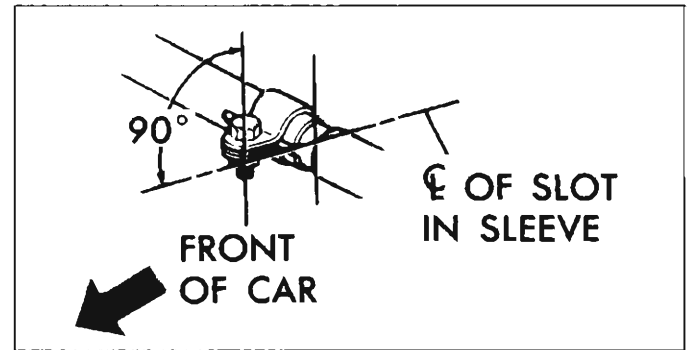

Fig. 8—Tie Rod Clamps
3. If gear has been moved off high point when setting wheels in straight ahead position, loosen adjusting sleeve clamps on both left and right hand tie rods (fig. 8), then turn each sleeve an equal amount in the same direction to bring gear back on high point.
**CAUTION:** Inner tie rod clamp bosses must be towards the front to 90° down to avoid stabilizer link bolt interference on all cars with stabilizer bar. For maximum clamping, bolts must be positioned at 90° to slot (fig. 8).